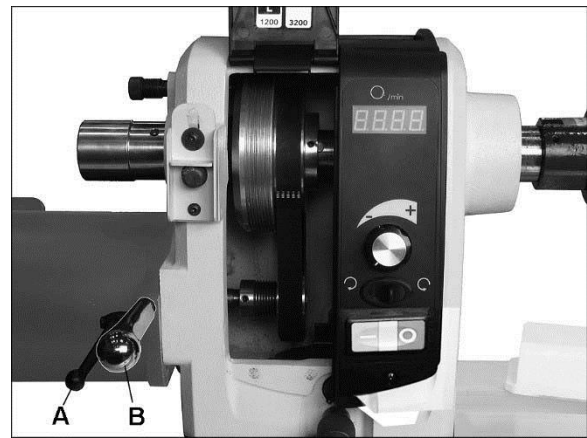

Fig 26
Loosen pivot lock handle (A, Figure 26) and lift up tension handle (B) to raise motor. Tighten pivot lock handle (A) to hold motor in raised position.